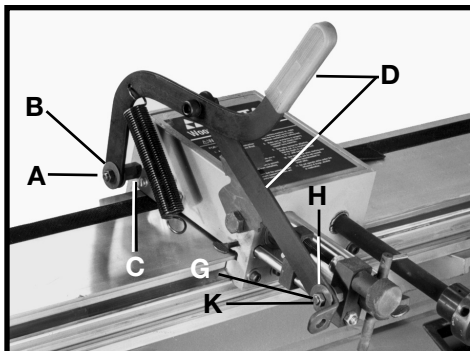

Fig. 40
4. Attach handle assembly (D) Fig. 40 on studs (C) and (K). Fasten with hex nuts (A) and (G) and flat washers (B) and (H) (removed in **STEPS 1 and 3**).